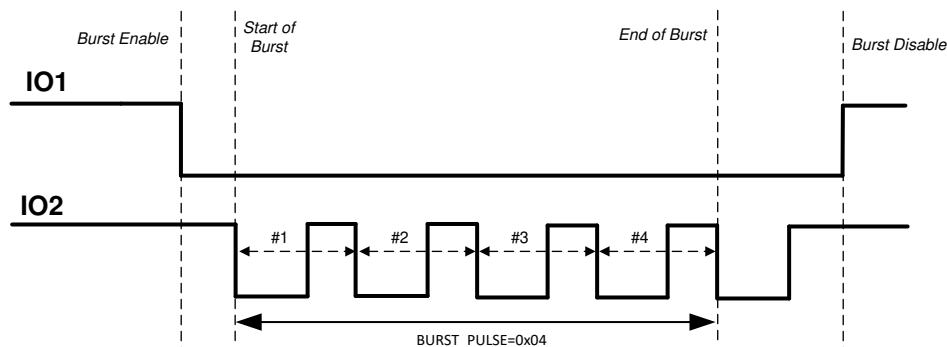

Figure 7-2. IO_MODE 1 Description
- IO_MODE = 1:** In this mode, the external clock for the transducer is applied at the IO2 pin and the burst mode is enabled when IO1 pin transitions low (see Figure 7-2). The device then expects a clock at IO2 pin to generate pulses on the OUTA/OUTB pins. The start of burst happens from the first falling edge of IO2. The number of pulses are counted by counting falling edge to next falling edge transitions on IO2 once the start of burst is triggered. End of burst sequence is signaled when the number of pulses defined in BURST_PULSE are sent or IO1 transitions high, whichever occurs earlier. TI recommends that IO2 is held high before start of burst to count the number of pulse correctly. After the start of burst, the state of OUTA and OUTB pins are determined by IO1 and IO2 pins. A transition of IO1 from low to high to low again is required to initiate a new burst sequence.